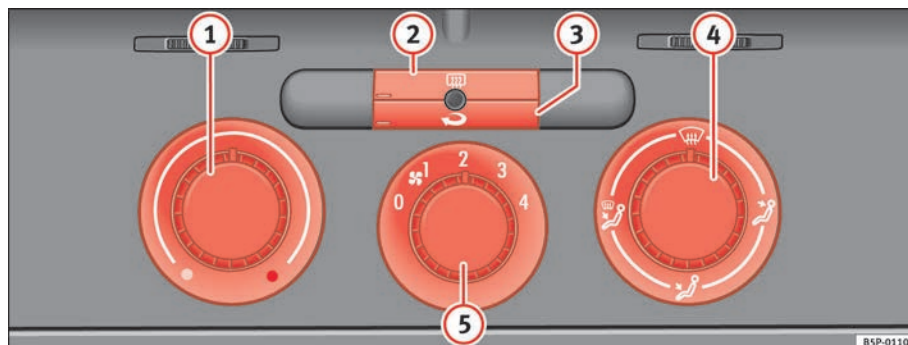

Fig. 126 On the dash panel: Heater controls
- Using the controls ⇒ fig. 126 ① and ④ and the control ⑤ you can set the temperature, air distribution and the turbine speed.
- To switch a function on or off, press the appropriate button ② or ③. When the function is activated, the display window in the lower left of the button is lit.